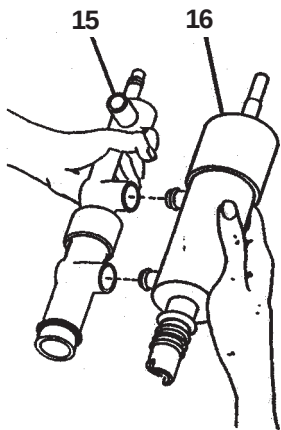

Figure 8. Pump Disassembly Step Two
(See Fig. 8)
- D. Holding valve retainer firmly in place with thumb and forefingers, join mix transfer tube (15) to pump cylinder (16) as shown. (See Fig. 8)